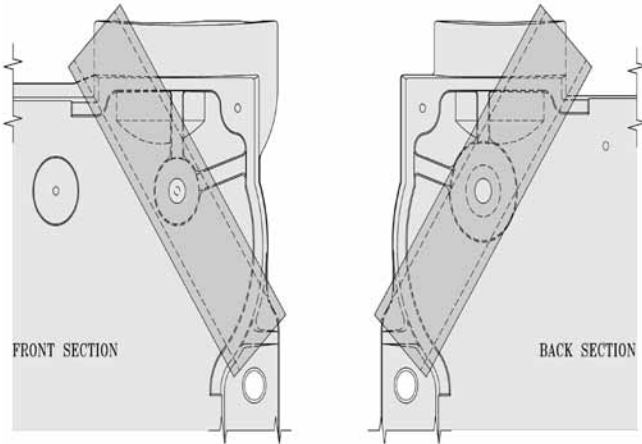

Figure 10: Front and Rear Section Channel Block Positions (Hydraulic Draw-Up)
- c. Insert the three (3) ¾" draw-up rods (and couplings, if appropriate) through the tapped holes in the rear section extending them through the tapped holes in the front section. Be sure to screw draw-up rods into couplings far enough to prevent stripping threads.
- d. Place a 3" x 12" lg. steel channel on each end of the upper draw-up rod and a 3" x 8½" lg. steel channel on each end of the lower draw-up rods. Refer to Figures 10 and 11 for proper placement of channel block during assembly procedures. Install nuts and washers on one end of the draw-up rods and the hydraulic rams, washers and